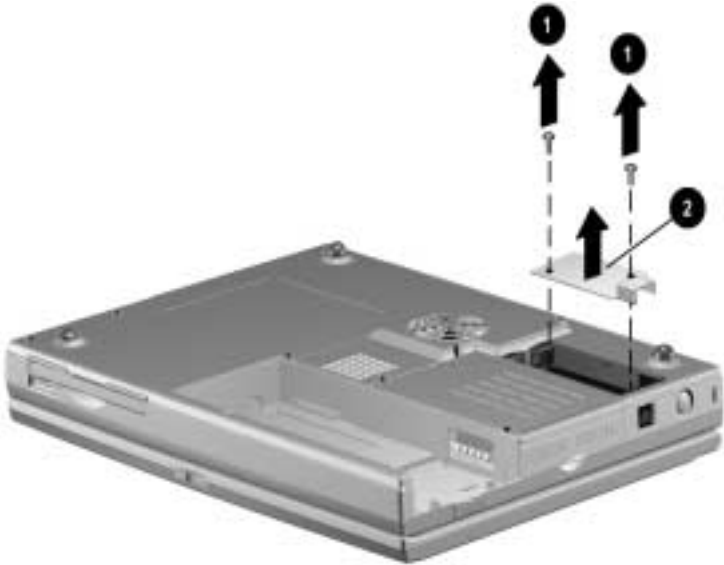

Figure 5-4. *Removing the Modem Shield*
6. Remove the two screws ❶ securing the modem shield to the base assembly (Figure 5-4).
7. Remove the modem shield ❷.